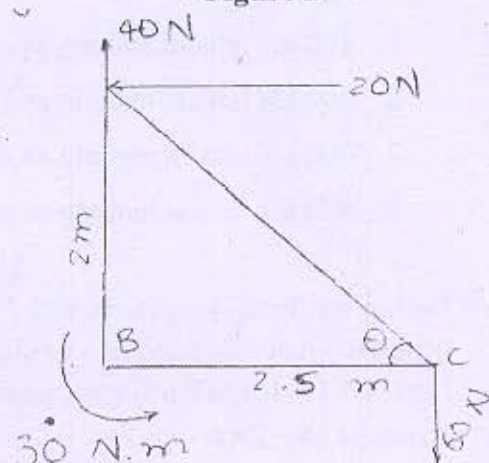

Figure 4
- (iii) Determine the resultant of the four forces shown in Figure 4 with respect to point B.